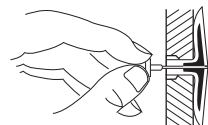

Figure 10 - Popping Open Anchor Wings For Thin Walls
4. For thin walls (1/2" or less), insert red key into wall anchor. Push red key to "pop" open anchor wings (see Figure 10).